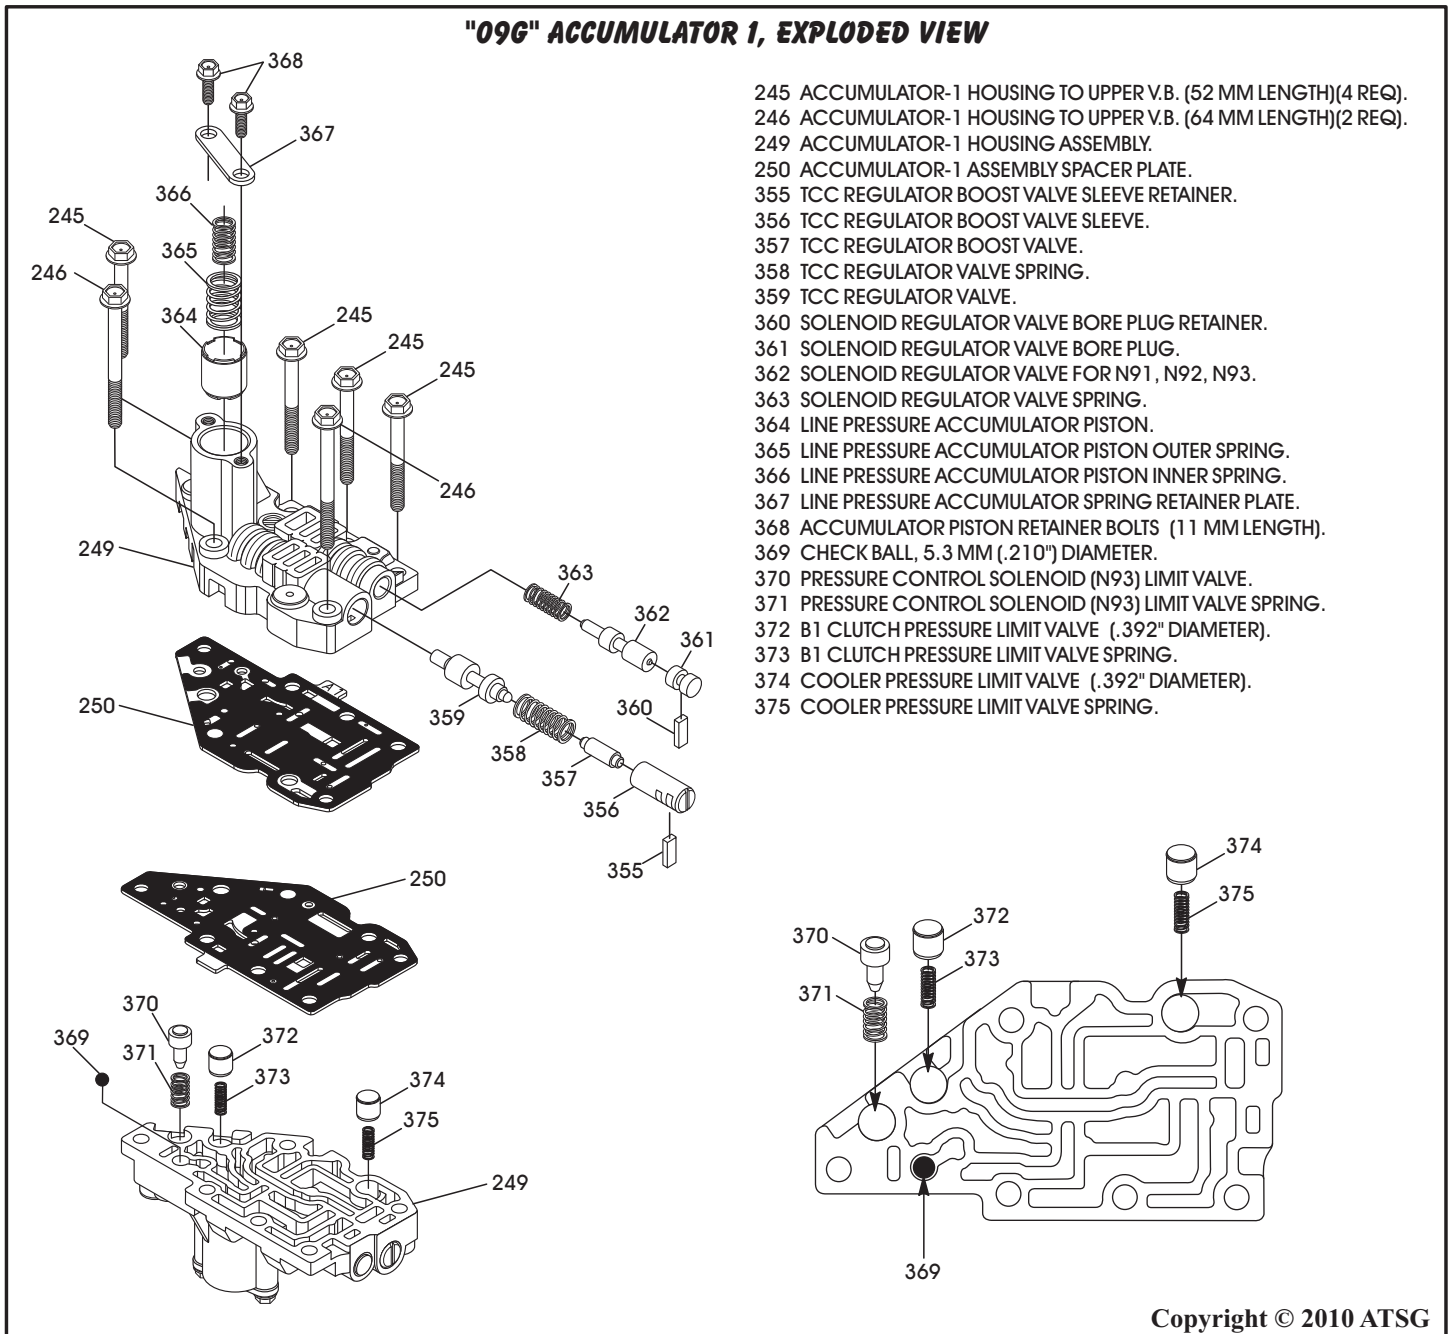

Figure 159
26. Disassemble the accumulator 1 valve body and place valves, springs and retainers on appropriate trays exactly as they were removed, as shown in Figure 159.
29. Assemble the valves, springs, bore plugs and retainers exactly as shown in Figure 159, and lube with proper ATF as they are installed.
31. Turn the accumulator body over and install the check valves and the check ball, as shown in Figure 159.
32. With the small parts in place, install the spacer plate onto the accumulator body, as shown in Figure 159.